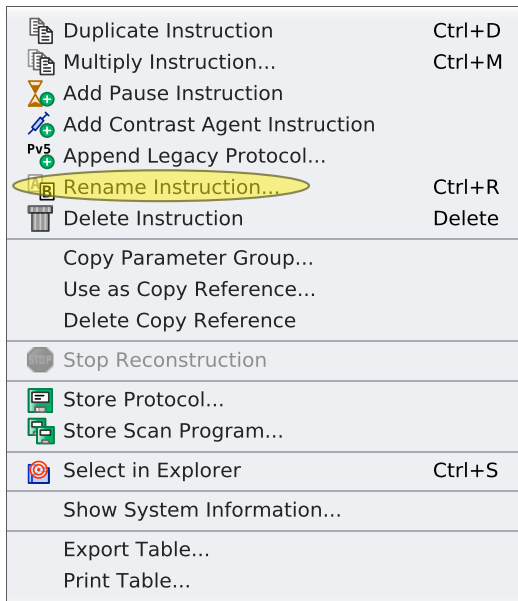

Figure 1.19: Context Menu Examination Card
2. Open the context menu (see [Figure 1.19 \[p 46\]](#)) and invoke **Rename Instruction...** or type <Ctrl>+<R> on the keyboard.